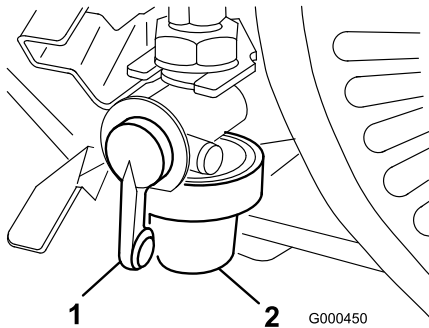

Figure 26
1. Close fuel shut off valve and unscrew bowl from filter body (Figure 26).